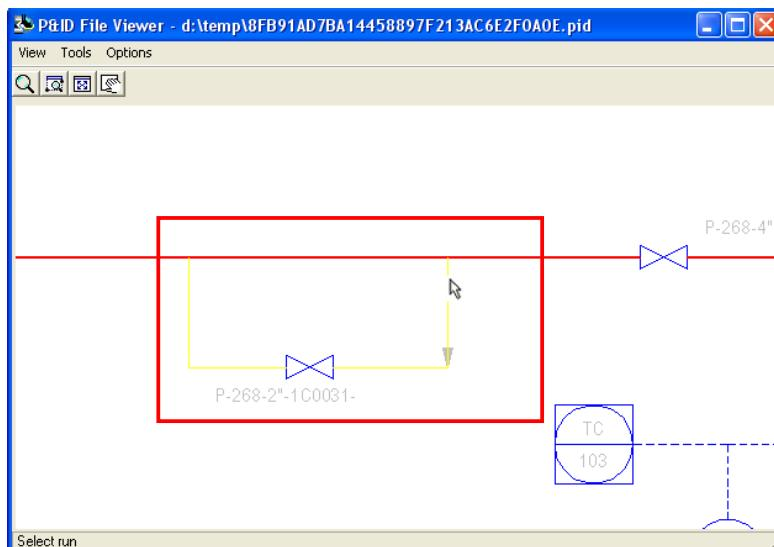

Figure 17: Bypass Line in the P&ID File Viewer Dialog Box
7. The **P&ID File Viewer** window appears. In the **P&ID File Viewer** window click the bypass line, as shown in Figure 17.